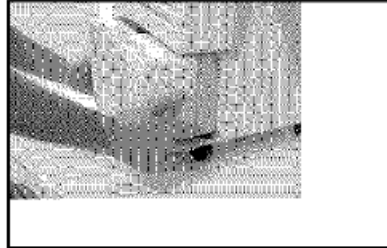

Figure 3
2. Grab the handle and slide the bucket away from the unit. See Figure 3.
- **Note:** When using either of the above direct draining methods, you must first drill a 3/8" (10 mm) hole in the center of the bucket connection. (For ease of drilling use the locating mark to center the drill bit for the hole (Figure 3).) This will allow water to flow freely through the connection. To reseal the hose connection to the bucket, use any standard hose end cap. The hose cap cannot be used to reseal the hole.